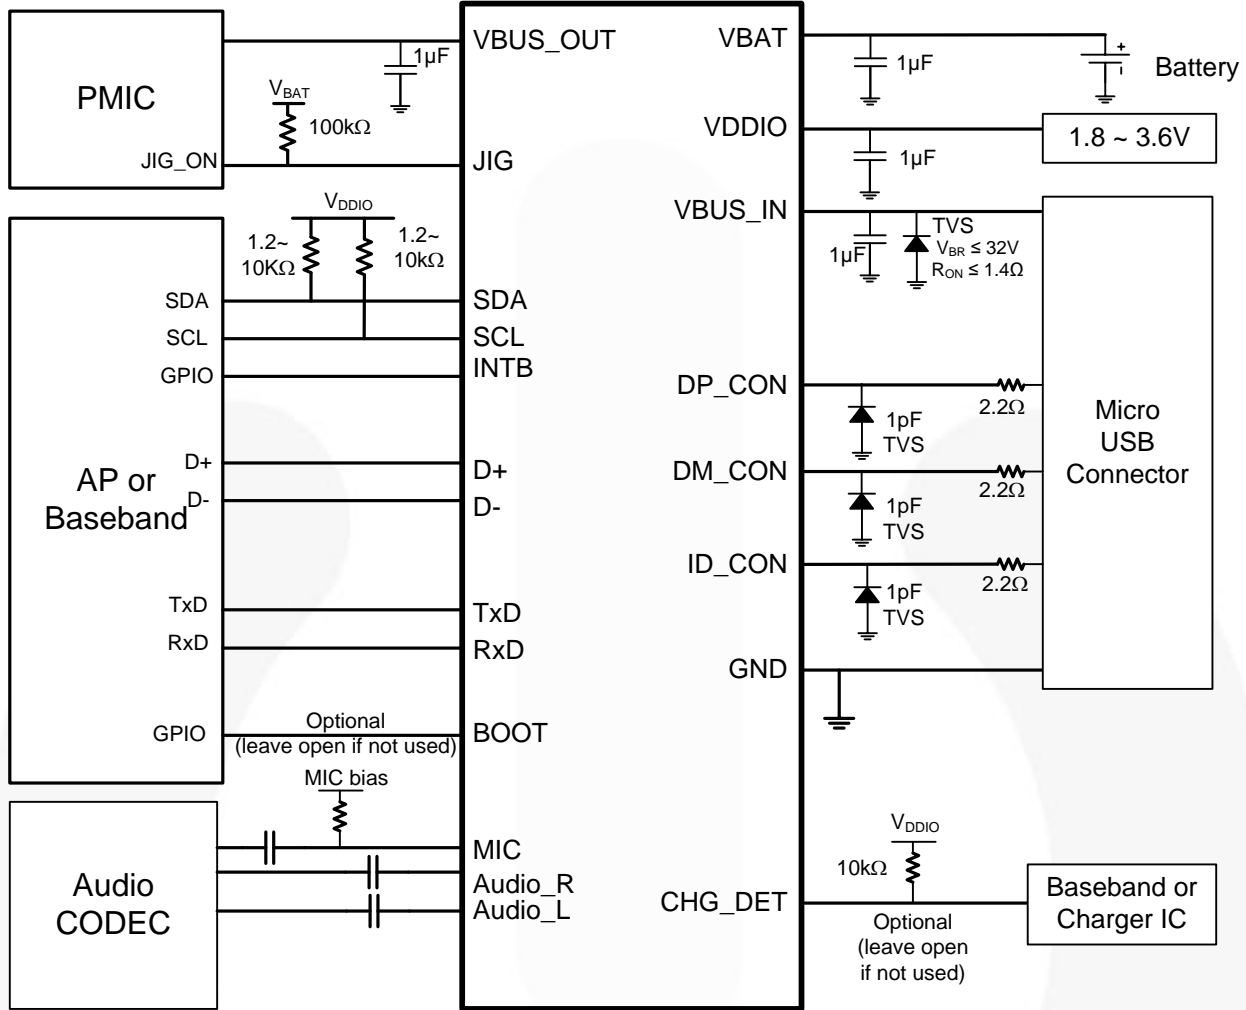

Figure 27. Reference Schematic
- Add as large a decoupling capacitor as possible ($\geq 1\mu\text{F}$) between the V_{BAT} pin and GND to shunt any power supply noise away from the FSA9280A. Also add decoupling capacitance at the PA (*see the reference application schematic in Figure 27 for recommended decoupling capacitor values*).
- Add 33pF shunt capacitors on any PCB nodes with the potential to collect radiated energy from the phone transmitter. At a minimum, add these 33pF capacitors to the MIC pin (*see Figure 27*).